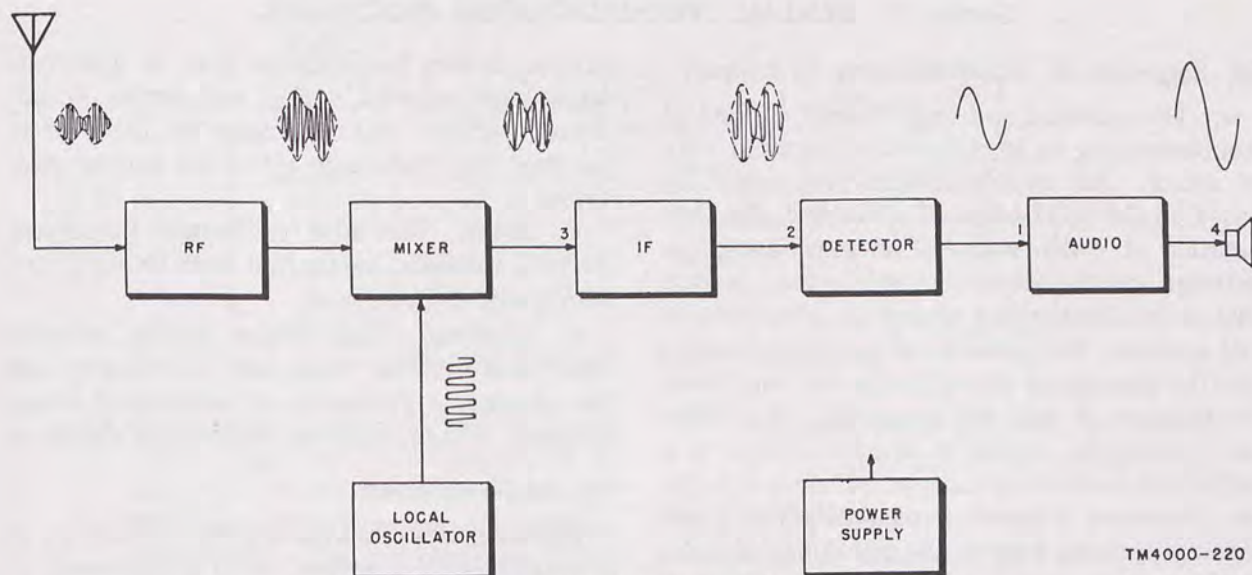

Figure 45. Superheterodyne receiver, block diagram.
a. Signal substitution is used to determine the stage or section that is causing the trouble (fig. 45). The output device, in this case the speaker, remains connected to the same point, while the point of signal injection is changed during the tests.
a. Signal tracing is also used to determine where the trouble is, but the method is different (fig. 45). The point of signal injection remains the same, but the output indicator is moved from point to point.
g. Another method of signal tracing uses a signal generator and an oscilloscope (fig. 45). Feed a modulated signal from a signal generator into the input of the RF stage. Connect the vertical amplifier terminals of the oscilloscope